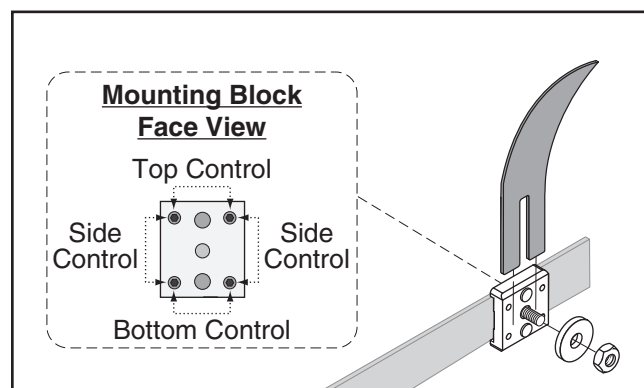

Figure 164. Riving knife and splitter/riving knife mounting block adjustment controls.
The riving knife and splitter/riving knife mount to a block that can be repositioned to correctly align the riving knife or splitter/riving knife to the blade. The mounting block adjusts by turning the set screws in each corner of the block. **Figure 164** shows the set screws associated with controlling the mounting block position. Have patience when adjusting the mounting block, because it requires trial-and-error to perform with accuracy.
6. Adjust each pair of set screws in **Figure 164** to move mounting block so riving knife can be aligned with blade. Make sure to adjust both set screws evenly.